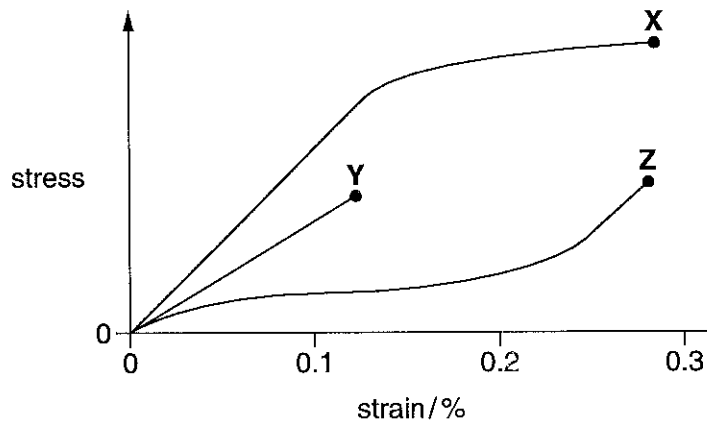

Fig. 7.1
- 7 (a) Fig. 7.1 shows stress against strain graphs for materials X, Y and Z up to their breaking points.